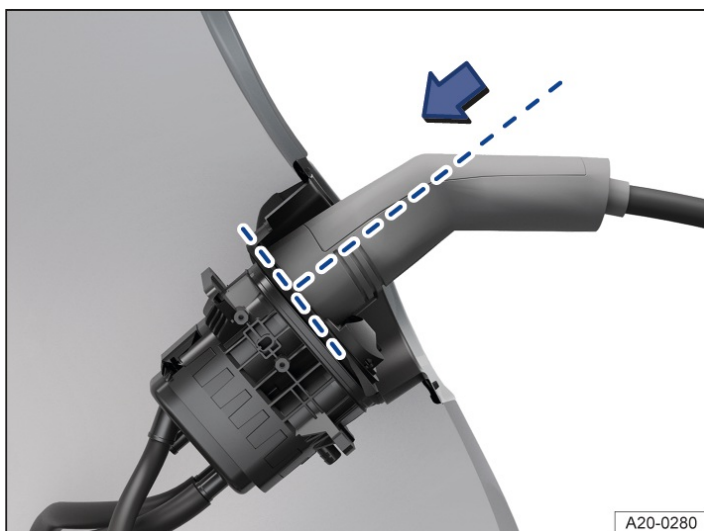

Fig. 2 At the charging socket: fully plugged charging connector (schematic diagram).
4. Insert the charging connector into the charging socket ensuring that it is inserted straight → Fig. 2 ②. Check whether the charging connector is inserted all the way → Fig. 2.